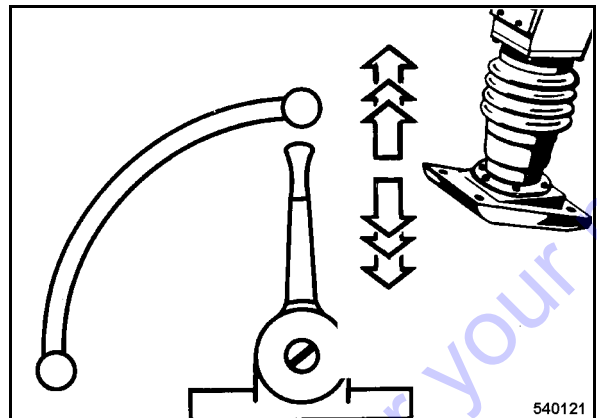

Fig. 58
- To read the maximum speed set the throttle lever to position MAX (Fig. 58).